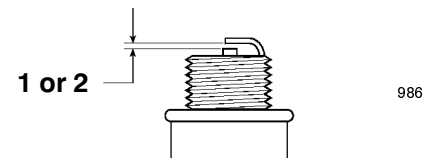

Figure 31
4. Set the gap on the new plug as shown in Figure 31.